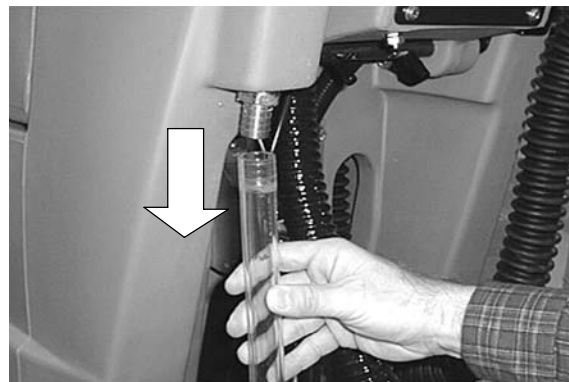

FIG. 26
1. To drain any remaining water from the solution tank, pull the solution tank level/drain hose off the hose fitting as shown (Figure 26).